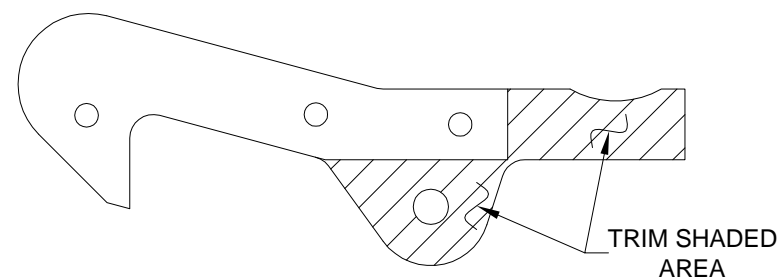

FIGURE 2: SAFETY LATCH LAMINATION TRIM
Step 3: Trim the "tail" and pivot lug from four of the C-1018 Safety Latch Laminations as shown in Figure 2.